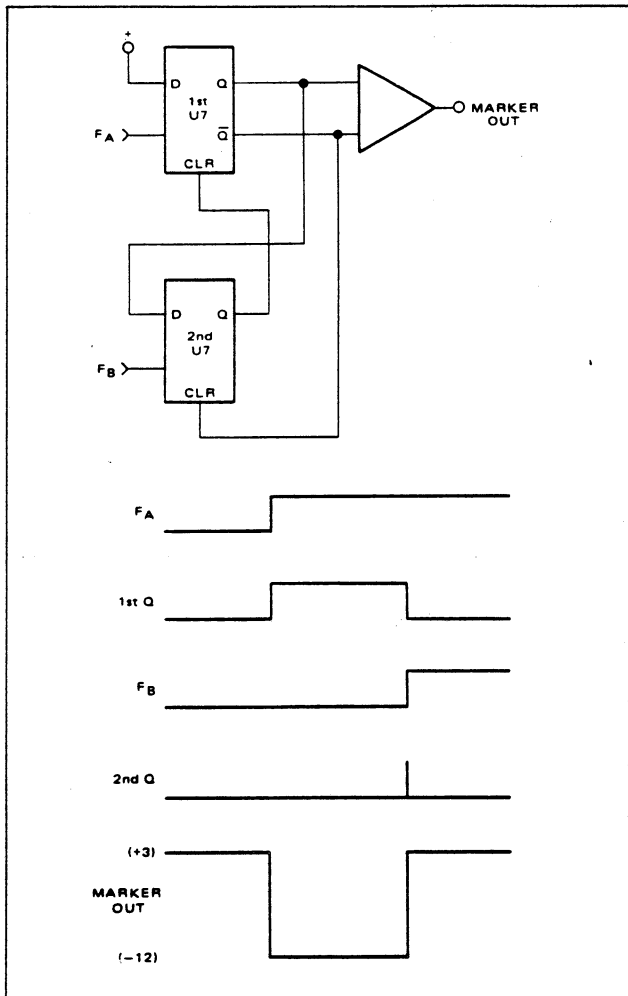

Figure 4.30 - Marker
4.4.9.11.1 The circuitry and timing are shown in figure 4.30. When the channel A line goes positive, the first flip-flop Q goes high setting the circuit output at -12. When the channel B line goes positive, the second flip-flop Q is set high, resetting the first flip-flop, which sets the circuitry output back to +3 volts, and resets the second flip-flop.